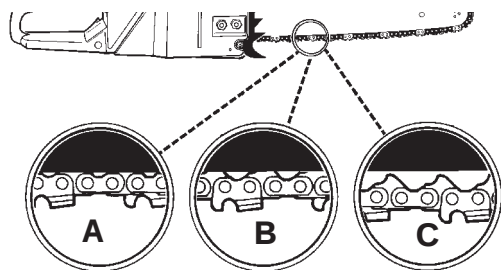

Fig. 23
CAUTION: saw chain is TOO LOOSE or TOO TIGHT, the sprocket, bar, chain, and crankshaft bearings will wear more rapidly. Study Fig. 23 for information concerning correct cold tension (A), correct warm tension (B), and as a guide for when saw chain needs adjustment (C).